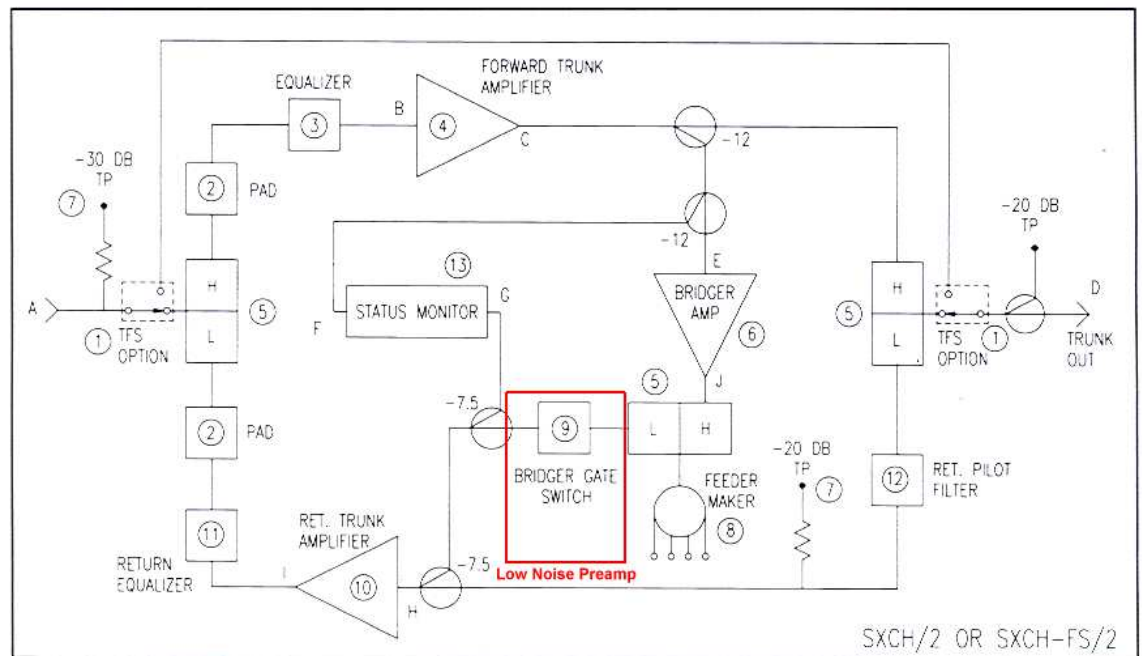

Figure 2
- a. **PROBLEM** This adds another active device to the return path and could lead to decreased reliability; (See Fig 2). In the overall operation this solution seems to be the best for field implementation and understanding;